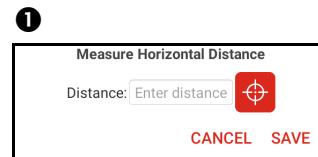

Figure 30
2. Follow the prompts (Figure 30) and the data will be saved to the NOTES tab.